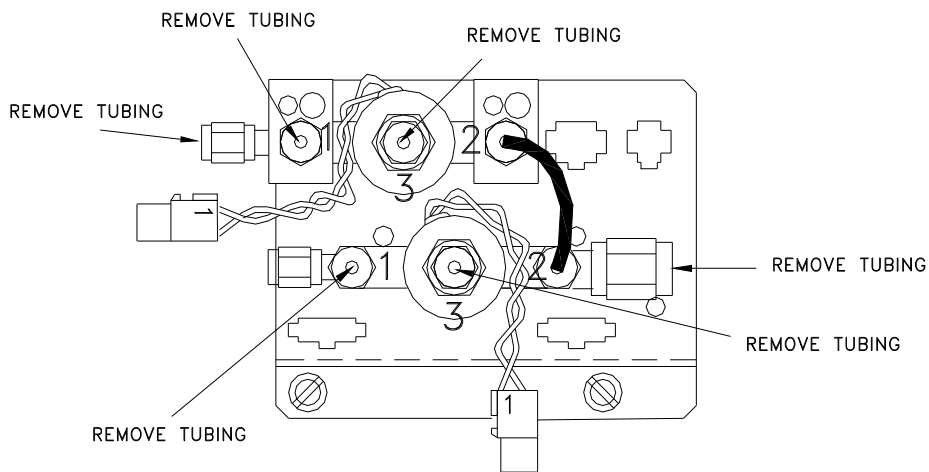

FIGURE 2
4. Remove the tubing on the valve assembly as shown in Figure 2.